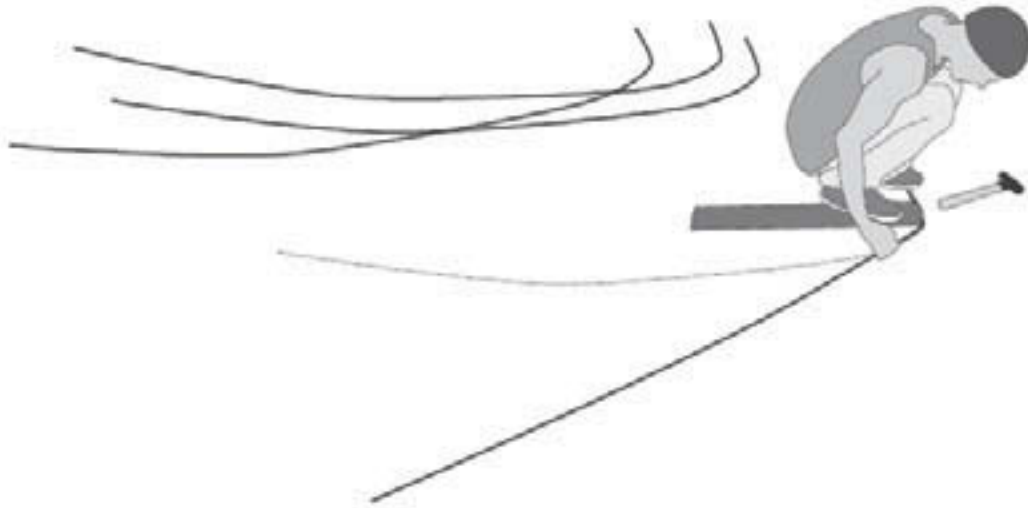

Fig. 14: Bending rebar for the tank form
- Cut a piece of steel bar, of the proper length, for each vertical piece needed. Draw the shape of the vertical pieces on a flat concrete or wooden surface. (To determine the length and shape of the vertical pieces refer to the sample designs in Appendix D or the form design instructions in Appendix B). Then, using a hammer and the pieces of scrap lumber, bend the steel bar into the proper shape (see figure 14).